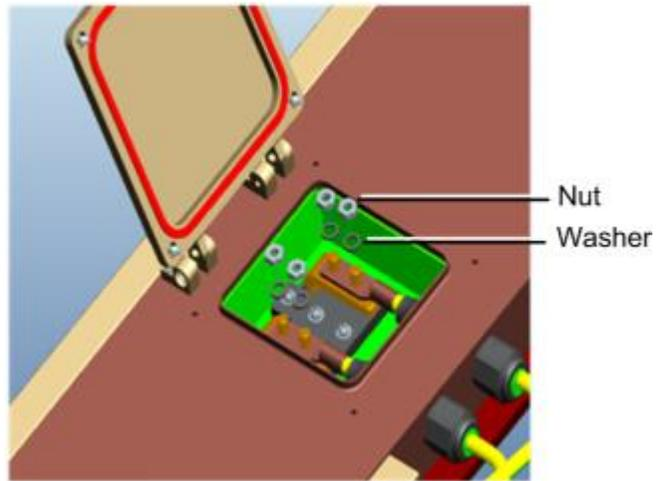

Figure 3-34. Tightening Lug to Terminal
4. Referring to Figure 3-34, use nut to tighten lug to terminal.